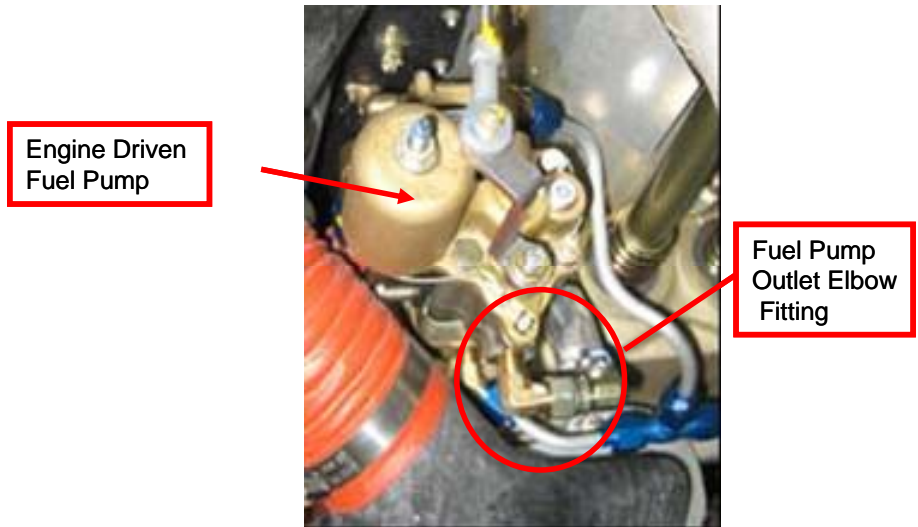

FIGURE 1
1. Disconnect the fuel line from the engine driven fuel pump outlet fitting. The fuel outlet fitting B nut may be loosened to assist in hose removal and alignment for installation of the new pump to filter hose. (Reference Figure 1) Install a cap on the fuel pump outlet fitting to prevent contamination.
1. Disconnect the fuel line from the engine driven fuel pump outlet fitting. The fuel outlet fitting B nut may be loosened but not removed to assist in hose removal and alignment for installation of the new pump to filter hose. (Reference Figure 1) Install a cap on the fuel pump outlet fitting to prevent contamination.